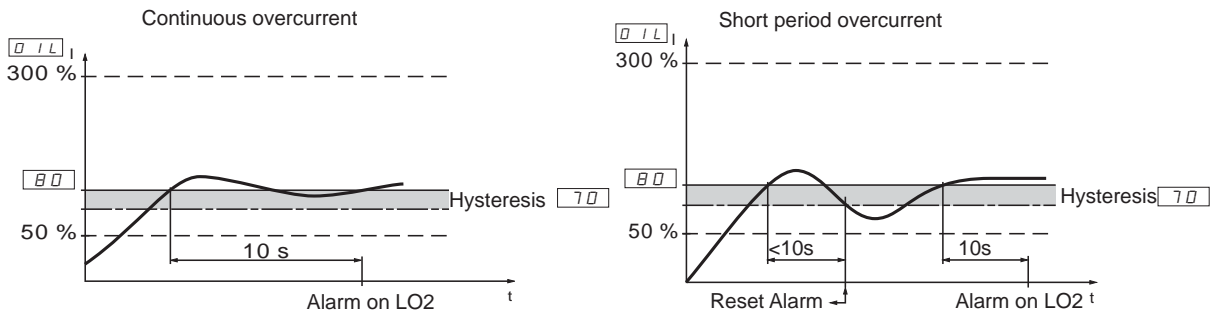

Figure 34: Current Trip Threshold
- The current trip threshold may be adjusted from 50 to 300% of the nominal motor current for additional protection during steady state operation. See Figure 34. If an overcurrent condition exists for more than 10 seconds, an alarm is signalled through logic output LO2. Brief overcurrent conditions are allowed without nuisance tripping if the current decreases to a level 10% or more below the overcurrent limit within 10 seconds.